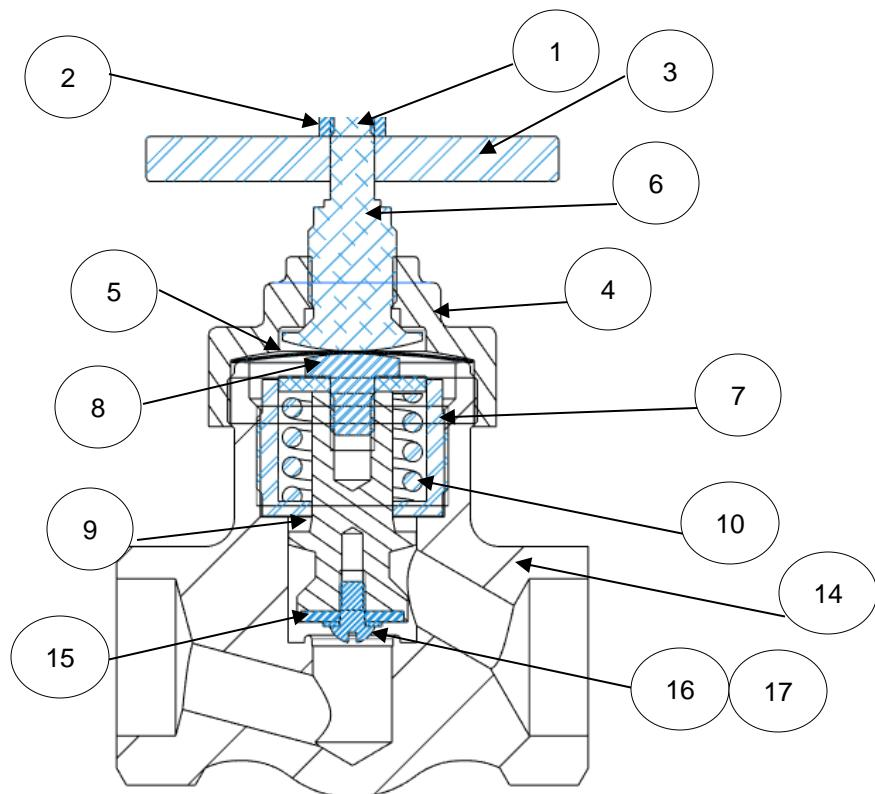
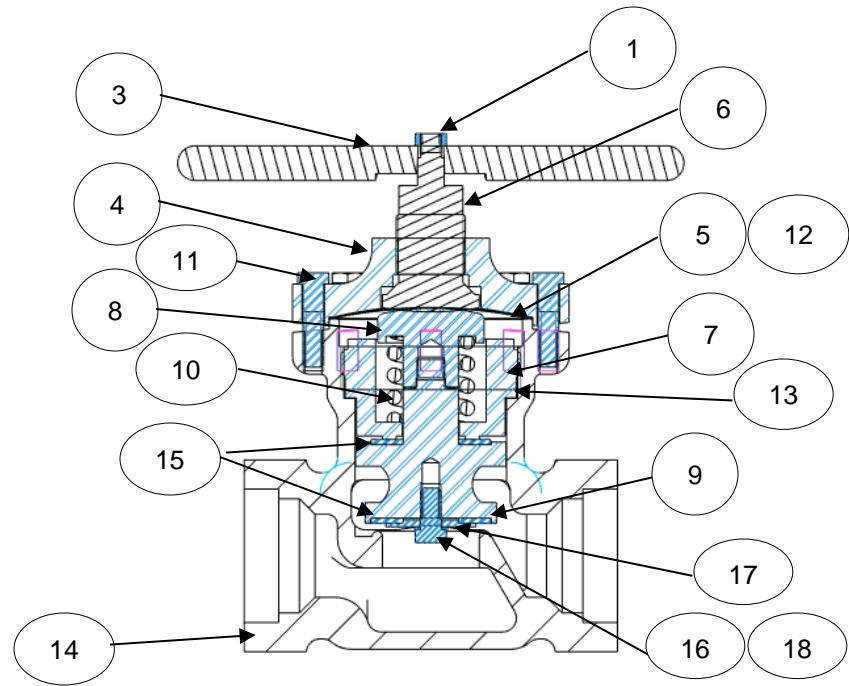

Figure 1: R42 Valve
Figure 2: 456 Valve
Figure 1 applies to R42 Valves and Figure 2 applies to 456 Valves
- 12.1.1 Figure 1 depicts R42 Valves, Figure 2 depicts 456 Valves